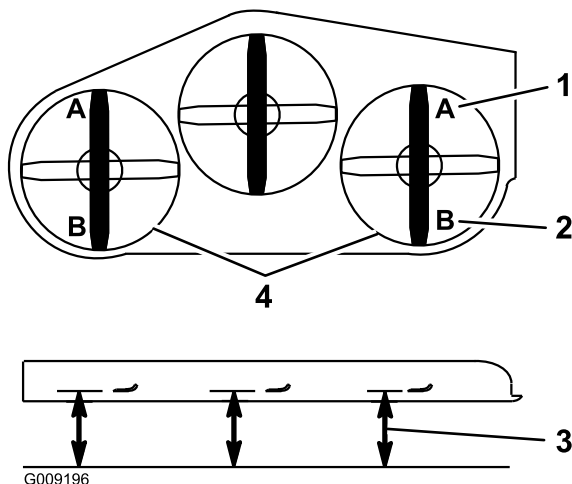

Figure 92
9. On both sides of the deck, measure from the level surface to the front tip of the blade (Position A); refer to Figure 92.
15. On both sides of the deck, measure from the level surface to the back tip of the blade (Position B). The measurement should read 8.3 cm (3-1/4 inches); refer to Figure 92.